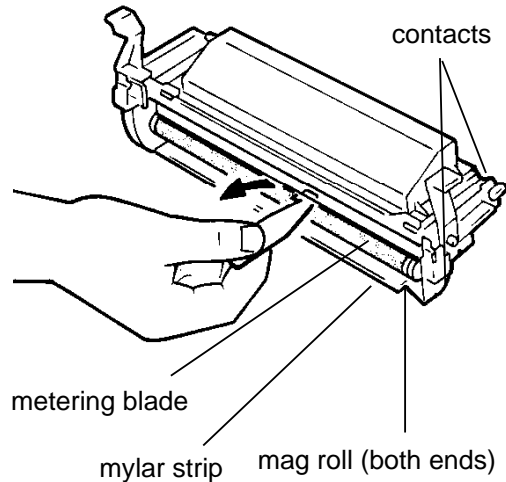

Figure 7. Developer Assembly
- a. Inspect or clean the metering blade using the mylar scraper (Figure 7).
- b. Inspect or clean the mylar strip at the base of the developer assembly using a cotton swab (Figure 7).
- c. Inspect or clean the contacts on the right side and the front of the developer assembly using a cotton swab (Figure 7).
- d. Inspect or clean the bare metal ends of the magnetic roller with a cotton swab. Using your thumb, rotate the belt pulley on the rear of the developer assembly so that the magnetic roller turns in a downward direction and the stripes of toner move in an upward direction (Figure 7).